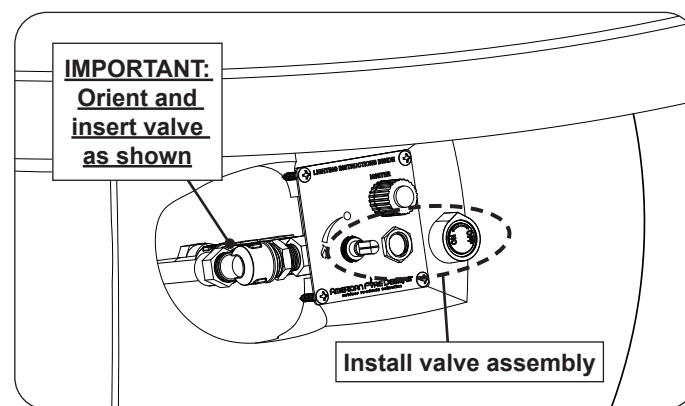

Fig. 31-3 Install valve assembly
6. Insert the valve assembly through the plate (in the base). Replace the nut onto the valve stem, and tighten. Reinstall the control knob. See Fig. 31-3.
Important: **Handle with care to prevent damage to the thermocouple and gas connections. Ensure the valve is oriented and inserted in the manner shown. See Fig. 31-3.**
7. Reconnect the 4-pin connector and the two 1/4" quick-connects (see Fig. 31-3).